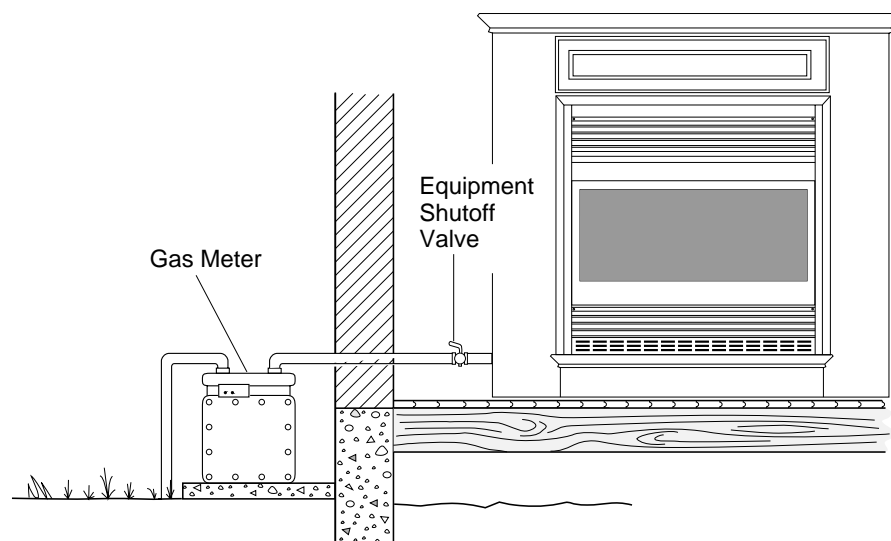

Figure 26 - Checking Gas Joints
3. Check all joints from gas meter to equipment shutoff valve (see Figure 26). Apply mixture of liquid soap and water to gas joints. Bubbles forming show a leak.
4. Check all joints from equipment shutoff valve to thermostat gas valve (see Figure 26). Apply mixture of liquid soap and water to gas joints. Bubbles forming show a leak.